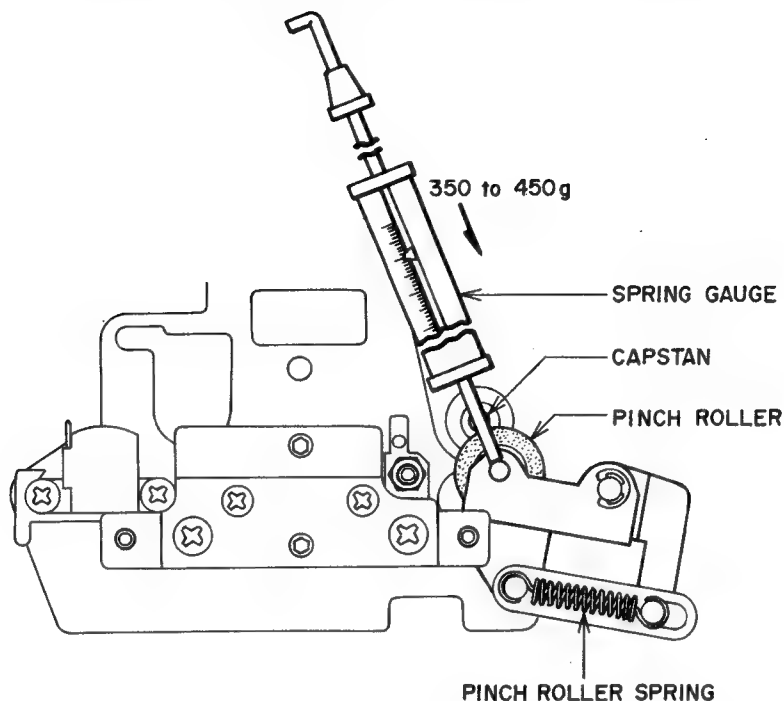

Fig. 10
7. PINCH ROLLER PRESSURE MEASUREMENT (Refer to Fig. 10)